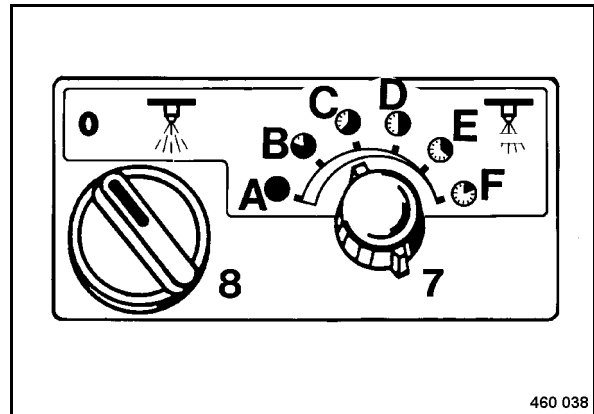

Fig. 61
- Rotary switch for sprinkling system 8 (Fig. 61)
- Set the interval switch (7) to the desired flow interval.